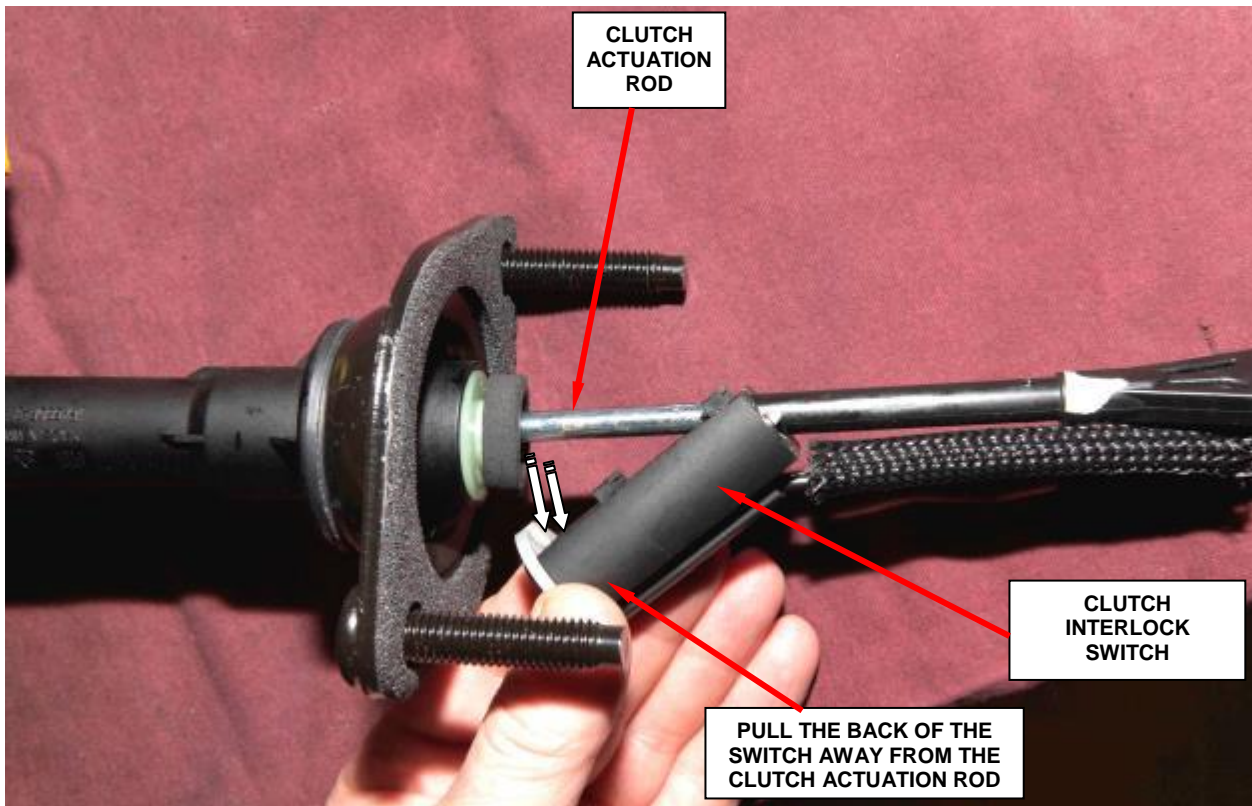

Figure 3 - Clutch interlock Switch Removal
7. Pull the clutch interlock switch towards the clutch pedal slightly. Then pull the back of the clutch interlock switch outward, away from the clutch actuation rod (Figure 3).